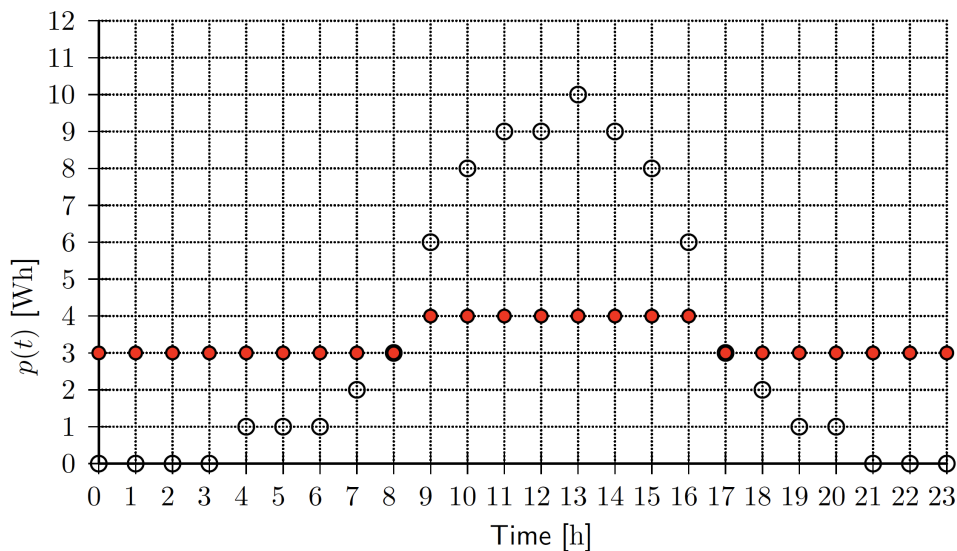

Figure 5: Application Control, Task (b)
- (b) (8 points) Suppose now that $B = 33 \text{ Wh}$. The harvested energy function $p(t)$ is given in Figure 5. Determine an optimal energy usage function $u^*(t)$ that maximizes the utility and never leads to failure state. Draw $u^*(t)$ into Fig. 5.
- During the time interval with surplus energy ($t \in [9, 16]$) we can increase the use function to $u(t) = 4$ without violating any feasibility constraint and still achieving a full battery at time 17. Red dots in Fig. 5 represent $u^*(t)$.